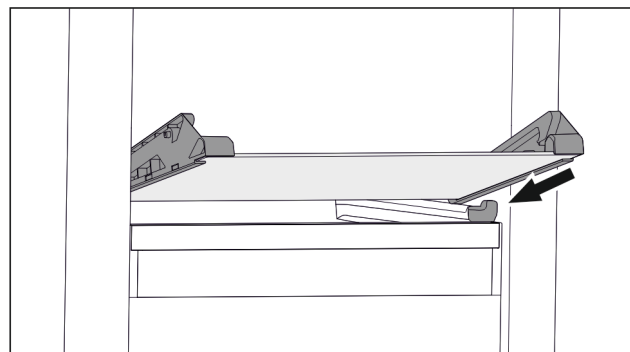

Fig. 71 Tilting drawer glass shelf
- ▶ Position glass shelf at an angle behind the stoppers. (see Fig. 71)